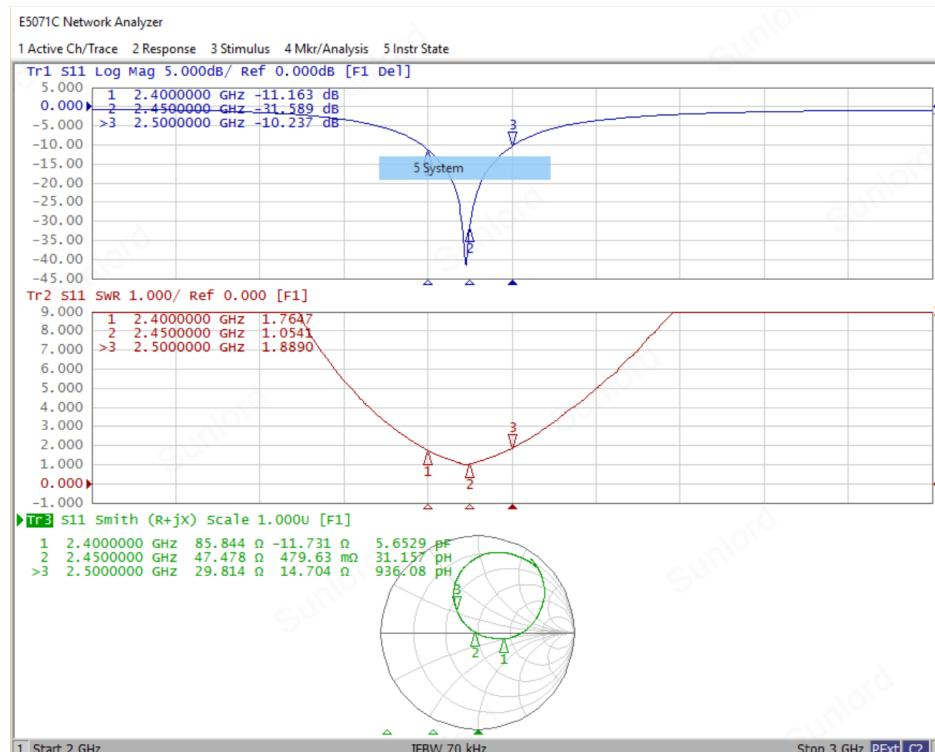

Fig. 3-1
- d) Electrical Performance: See Fig. 3-1.